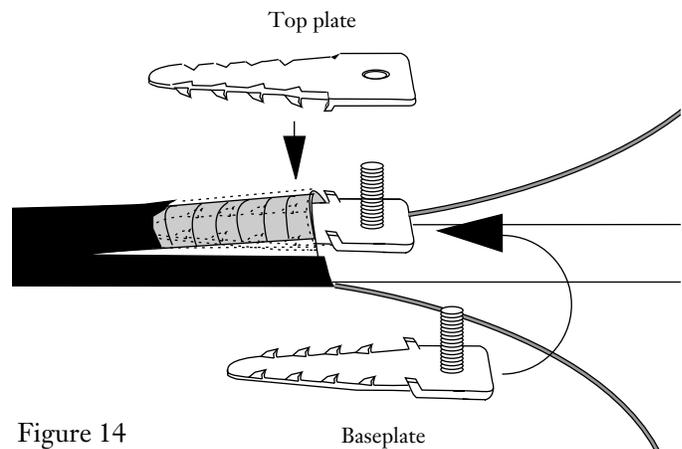

Figure 14
**5.2** Slide the baseplate under the armor. Be careful not to damage the central tube. Place the top plate over the baseplate and tighten down with the 10 mm locknut (Figure 14). A few light taps on the top plate may help seat the teeth of the grounding clamp.